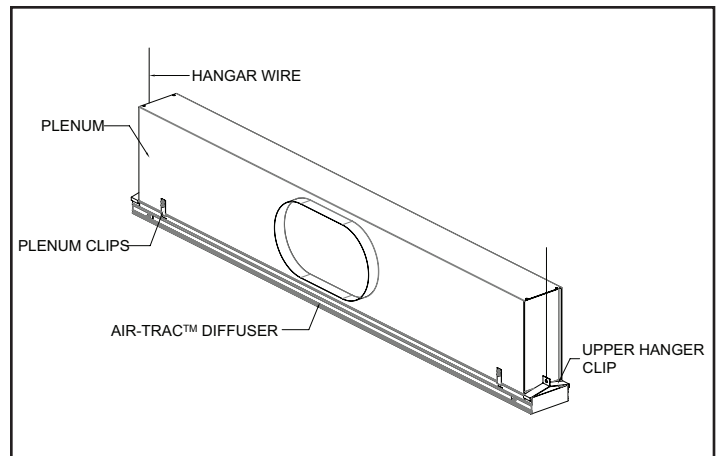

Figure 6. Attachment of Plenum to Diffuser
□ If Plenums were mounted earlier, attach the Plenum by snapping it to the Diffuser using the clips on the Plenum as shown in Figure 6.